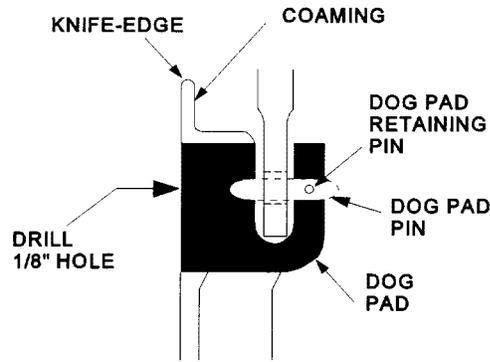

Figure 4-3. Removing Dog Pad Pin
- Drill a 1/8-inch diameter hole through the coaming. Insert a 1/8-inch diameter punch, and drive out the dog pad pin. See figure 4-3.